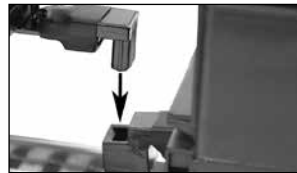

Figure 1. Drawbar connection
2. **Place your locomotive and tender on the track.** Connect the drawbar as shown in figure 1.
- 2. Place your locomotive and tender on the track.** Connect the drawbar as shown in figure 1 on page 4.
1. **With track power off, place your locomotive and tender on the track.** Connect the drawbar as shown in figure 1 on page 4.
2. Place the locomotive and tender on the track. Connect the drawbar as shown in figure 1 on page 4.